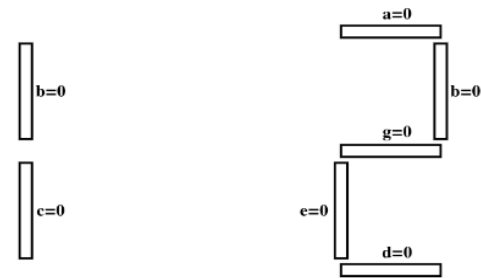

Fig. 3
Fig. 3 explains how to get decimal digits using the seven segment display. GND=0.
**Problem 2.6.** Draw the numbers 0-9 as in Fig. 3 and complete Table IV